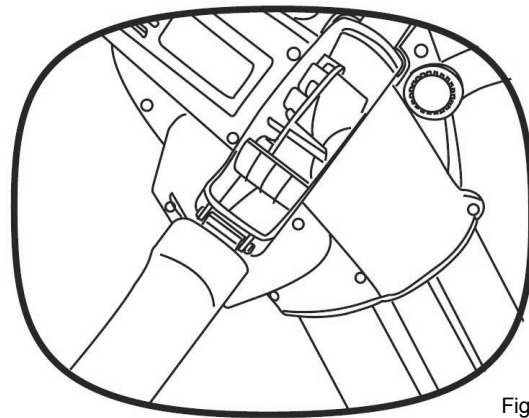

Fig. 11
3. Unscrew the Impeller Access Release counter-clockwise, until the impeller cover opens. See Fig. 11.